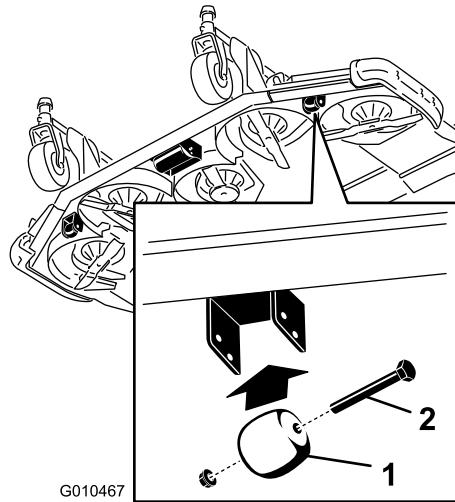

Figure 31
1. Remove the screw and nut securing the roller shaft to the deck bracket (Figure 31).
1. Remove the bolt and nut securing the gage wheel to the cutting unit brackets (Figure 31).